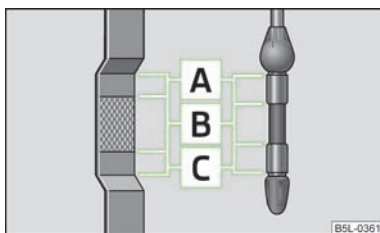

Fig. 137
The dipstick indicates the level of oil in the engine » Fig. 137.
- The oil level must on no account extend beyond the range **A** » Fig. 137. Risk of damaging the exhaust system!